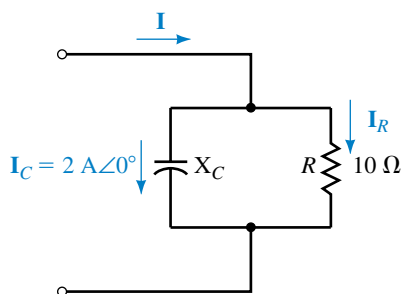

FIGURE 18-112
44. Assume that the circuit of Figure 18-112 has a current $\mathbf{I}$ with a magnitude of 3 A: